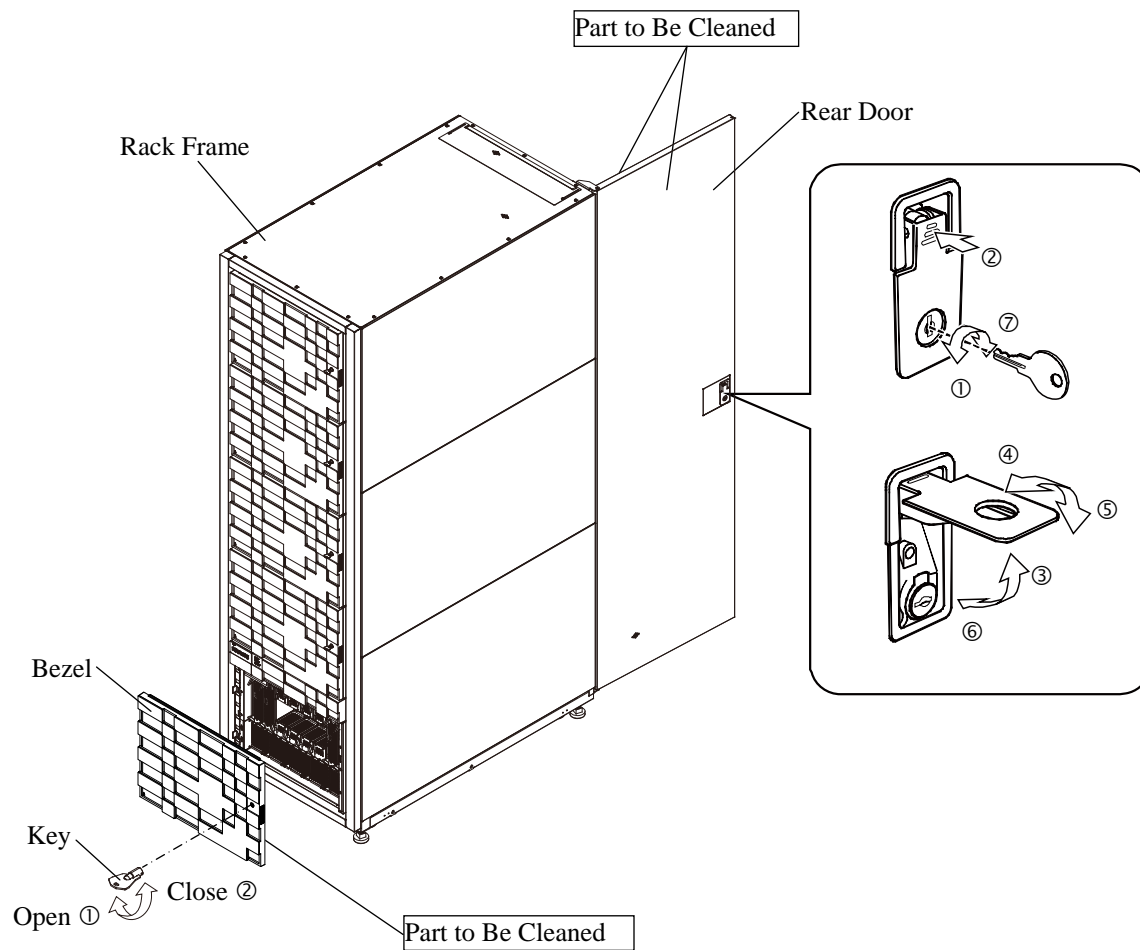
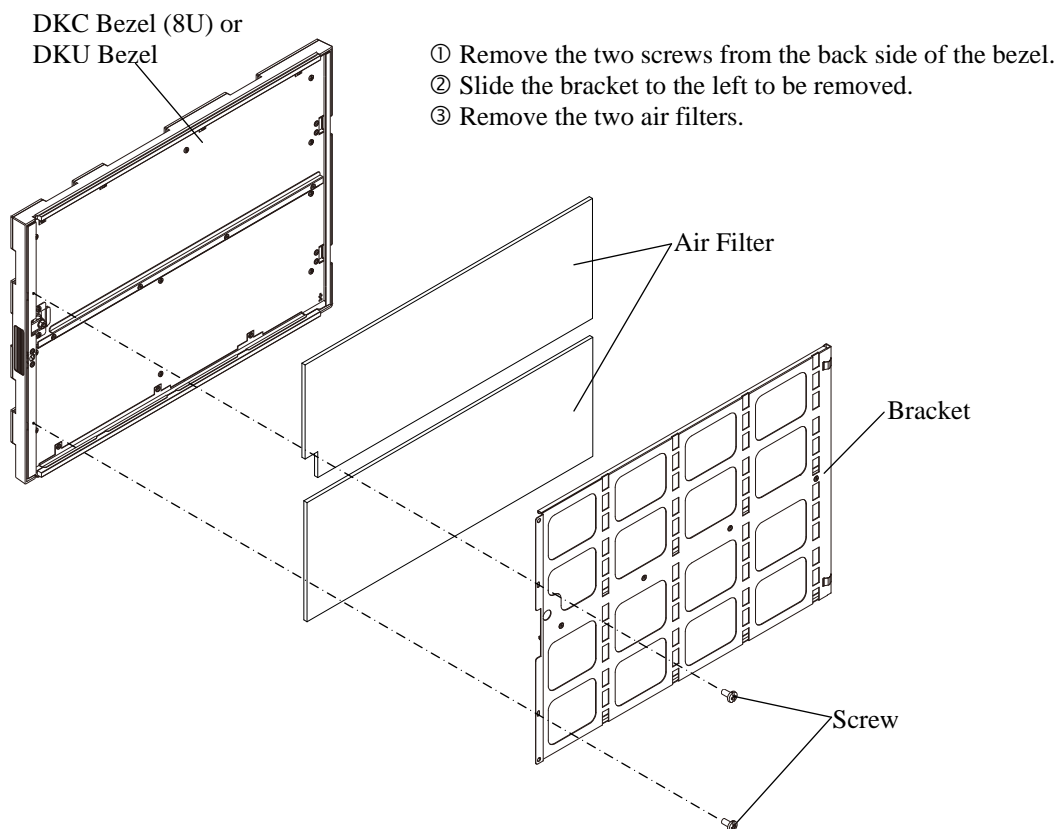
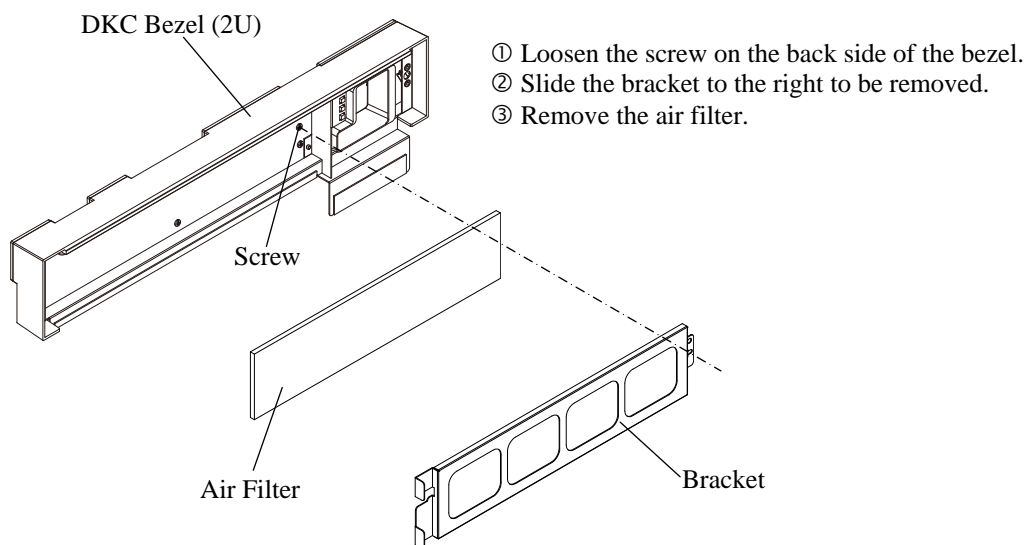

Fig. 2.1-1 Cleaning of Rack Frame
Fig. 2.1-2 Removal of Air Filters (DKC Bezel (8U) or DKU Bezel)
Fig. 2.1-3 Removal of Air Filter (DKC Bezel (2U))
- (1) Clean the front side of the bezel. (See Fig. 2.1-1.)
- (2) Insert the key into the bezel and turn the key in the direction of the arrow ① to release the lock.
- (3) Remove the bezel from the front of the rack frame. (See “3.1.1 Bezel Opening-Closing Procedure” (INST03-01-10).)
- (4) Remove the air filters from the bezel and clean them. After cleaning, put back the air filters in place. (See Fig. 2.1-2 and Fig. 2.1-3.)
- (5) Install the bezel.
- (6) Turn the key in the direction of the arrow ② to fasten the bezel.
- (7) Clean the front side of the rear door.
- (8) Open the rear door.
- a. Insert the key into the key hole on the door and turn the key to the left to release the lock (①).
- b. Press the upper part of the lever to pull up the lower part of the lever toward you (②, ③).
- c. Turn the lever to the left and pull it toward you to open the door (④).
- (9) Clean the back side of the rear door.
- (10) Close the rear door.
- a. Close the door and push and turn the lever to the right (⑤).